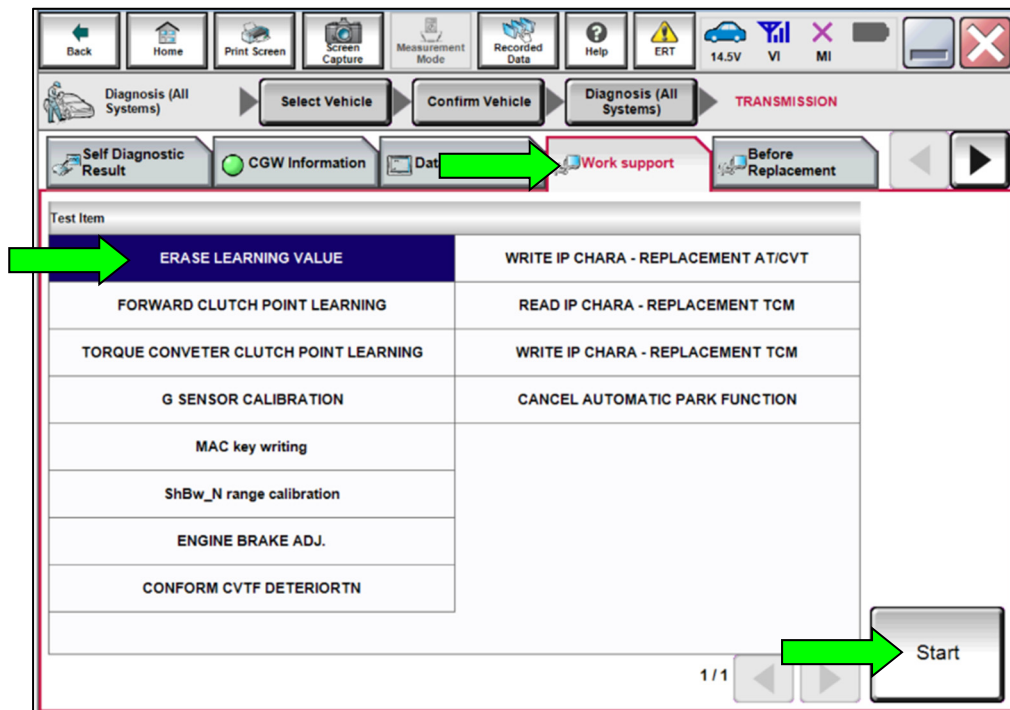

Figure 25
32. Select **FORWARD CLUTCH POINT LEARNING**, and then select **Start** (Figure 25 on page 17).